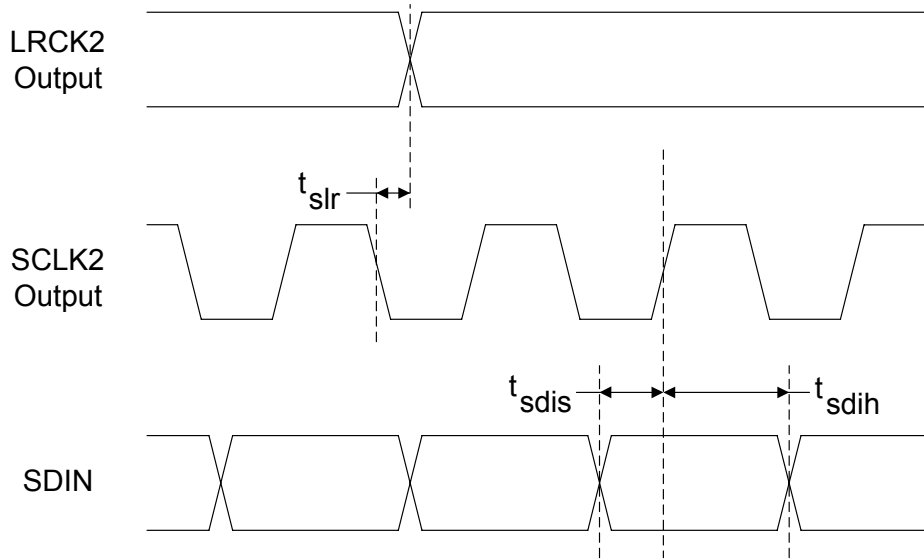
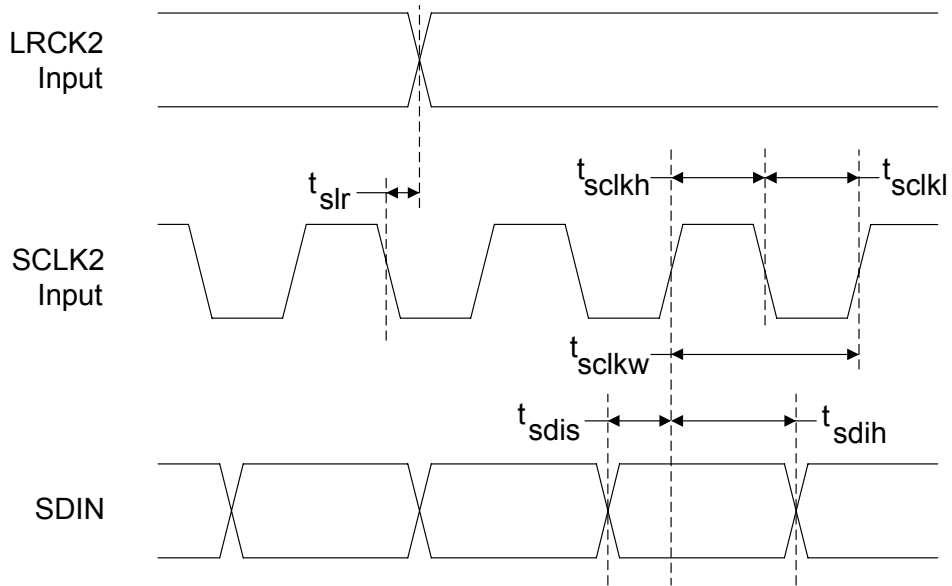

Figure 5. Master Mode Timing - Serial Audio Port 2
Figure 6. Slave Mode Timing - Serial Audio Port 2
29. See Figure 5 and Figure 6 on page 25.